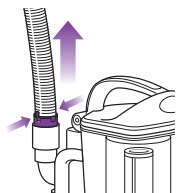

Fig. 28
- Detach the stretch hose from the back of the detachable canister by squeezing the tabs together and pulling up. **(Fig. 28)** Straighten out the hose and look inside for blockages.